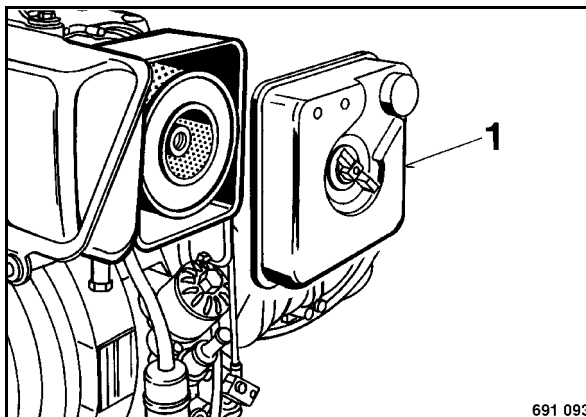

Fig. 81
- Unscrew the wing nut for cover (1) (Fig. 81) and take off the cover.